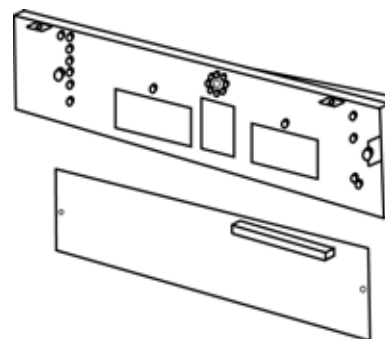

Figure 21: Front PCB Removed
11. Carefully lift the front PCB out of the front case. See Figure 21.